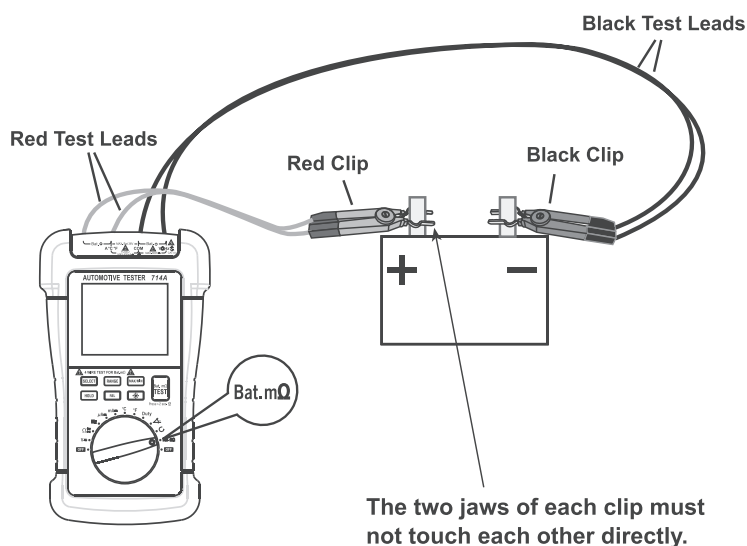

figure 8
2. See Figure 8, insert the plugs of the two red test leads into the two "**Bat. $\oplus$** " terminals and the plugs of the two black test leads into the two "**Bat. $\ominus$** " terminals.
3. Remove the oxide layer on the surface of the battery terminals. Clip the red clip to the battery's positive terminal, and clip the black clip to the battery's negative terminal (Figure 8). Note: For accurate measurement, the two jaws of each clip must not touch each other directly (Figure 8).